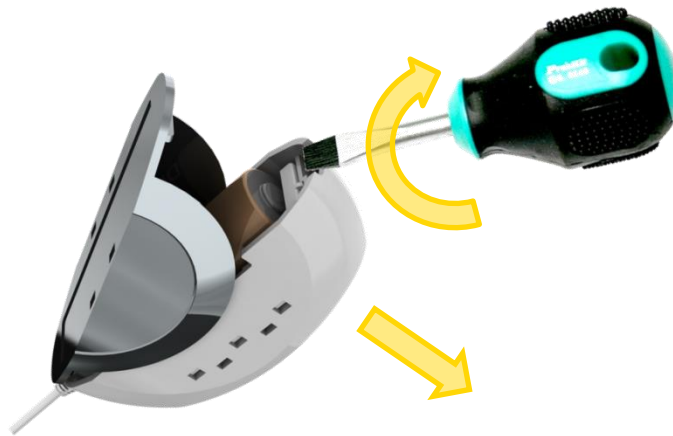

Figure 142: Dismounting the Universal Transmitter
1. Insert a coin (or flat screw driver) into one of the edge slots as demonstrated in Figure 142 below.